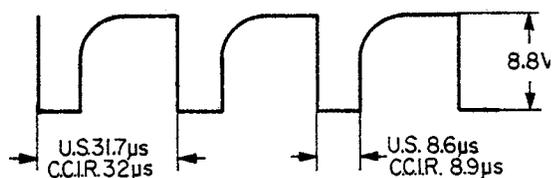

Fig. 5
- (b) Adjust the core of Oscillator Coil (T-7001) to obtain the waveform and frequency as shown in Fig. 5.